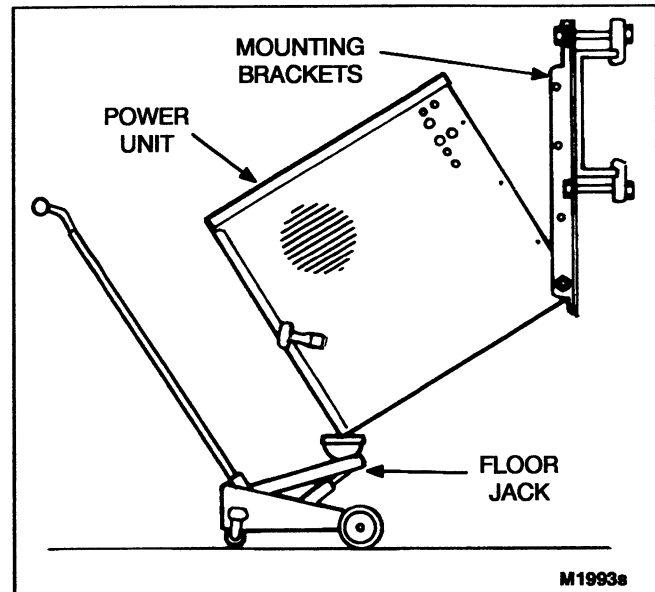

FIGURE 6-2. SERVICE ACCESS
2. Remove all but the bottom mounting bolts that secure the mounting brackets to the side of the power unit. Loosen the bottom bolts slightly. These bolt will be used as the pivot point for lowering the power unit (Figure 6-2).